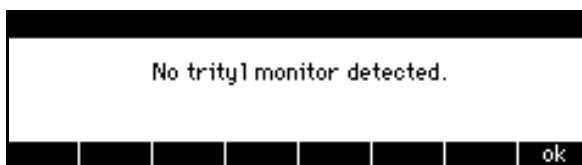

Figure F-19 No Trityl Monitor Detected Screen
- The system produces the “No trityl monitor installed” messages shown in Figure F-19 when the trityl monitor is, in fact, installed. Contact your PerSeptive Biosystems Service Representative.